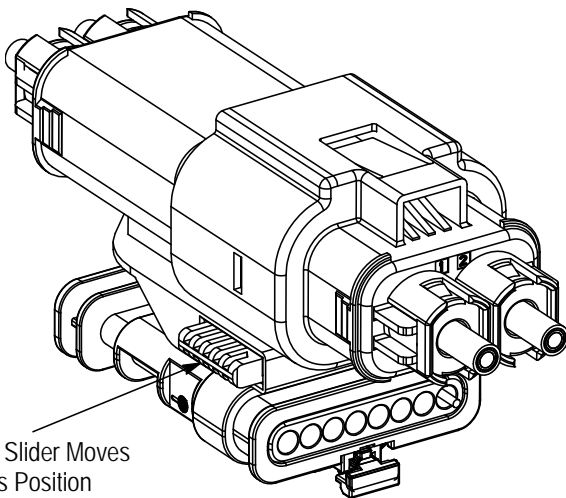

Figure 27
4. The HVIL post on the AMP+ HVA400 plug connector should engage and change the position of the HVIL slider as shown in Figure 27. If the connector halves do not fit together easily, check the following: